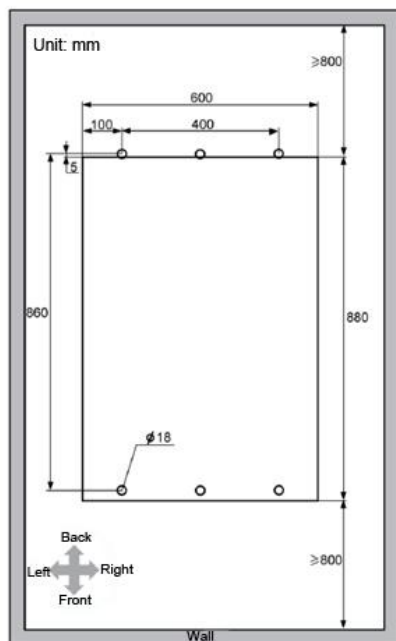
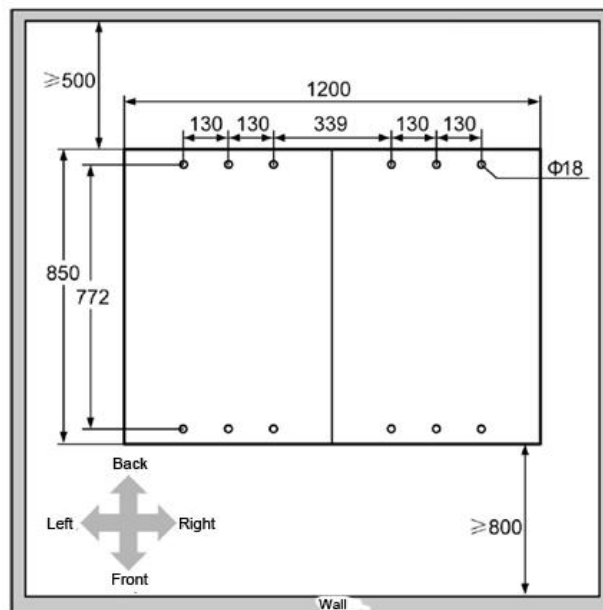
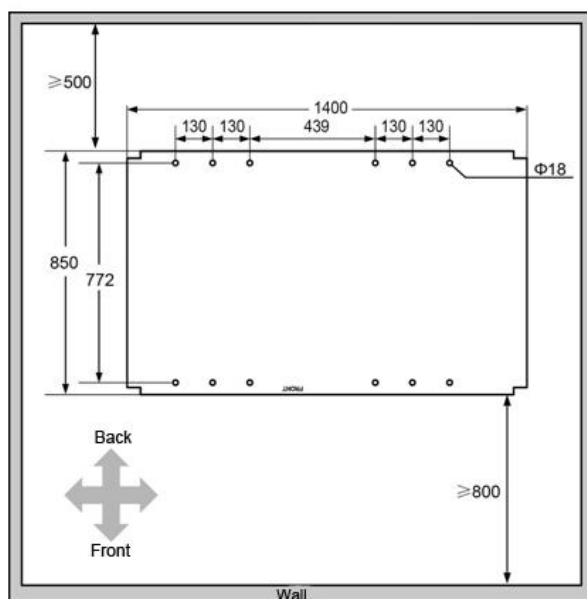

Fig. 2-53 Installing hole size of anti-seismic assembly (200/300kVA, unit: mm)
Fig. 2-54 Installing hole size of anti-seismic assembly (400/500kVA, unit: mm)
Fig. 2-55 Installing hole size of anti-seismic assembly (600kVA, unit: mm)
- Step 1 Mark the mounting holes on the mounting ground according to the marking template. The hole sizes of the anti-seismic assembly are shown in Fig. 2-53, Fig. 2-54, and Fig. 2-55